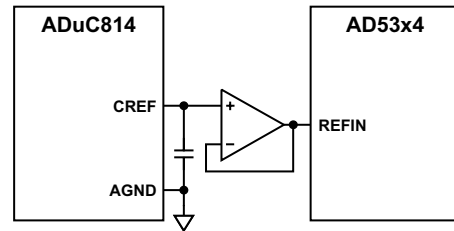

Figure 3. Using the ADuC814 Reference Output
- The ADuC814 provides an on-chip 2.5 V precision band gap reference. The internal 2.5 V is factory calibrated to an absolute accuracy of $2.5 \text{ V} \pm 2.5\%$. If this internal reference is used for AD53x4, it should be buffered at the CREF pin to AGND, as shown in Figure 3. The typical noise performance for the internal reference with 5 V supplies is 150 nV/Hz @ 1 kHz and dc noise is 100 mV p-p.